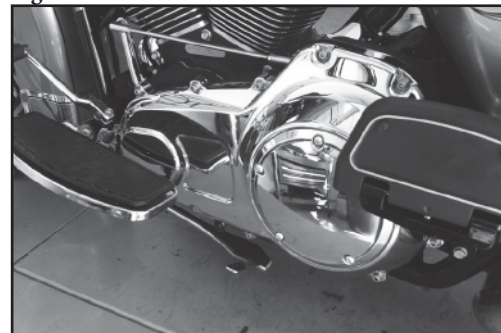

Figure 5
5. Re-assemble the engine's primary case and add fluid as recommended. We suggest that you replace the gaskets, if necessary (usually your original gasket can be used again without leaks). Check the unit for wear every 20,000 miles depending on your riding style...and always use clean primary fluid. See Figure 5.